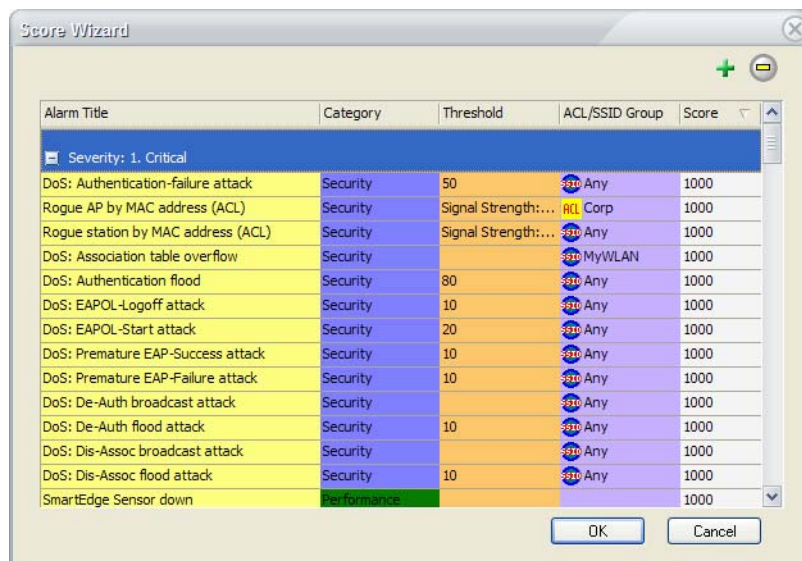

Figure 12-21: Score Wizard
- 1) From the AirMagnet Policy Management window, click **Score Wizard**. The Score Wizard dialog box appears. See Figure 12-21.